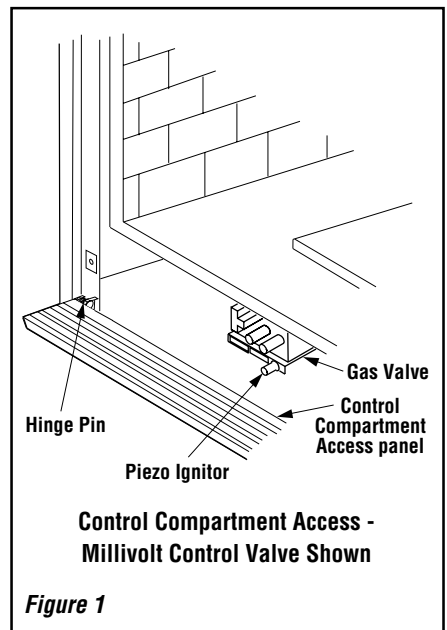
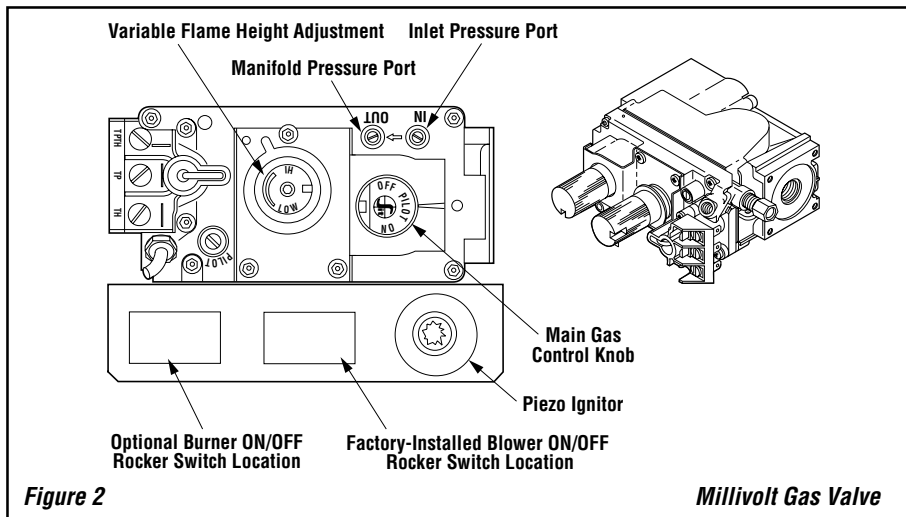

Figure 1
Figure 2
Appliance operation may be controlled by the following means: an optional unit-mounted ON/OFF control switch (Millivolt appliances only), an optional wall-mounted ON/OFF control switch or an optional remote control. The unit-mounted ON/OFF control switch may be mounted in the bracket below the gas valve (see Figure 2 on page 4).
Millivolt appliances are fitted with the gas control valve shown in Figure 2 on page 4.
Operation of millivolt and electronic gas control systems are different. Before lighting and operating your appliance determine if you have a millivolt or electronic appliance. Refer to Figure 1 for access to the gas control valve. Millivolt appliances will be fitted with the gas control valve shown in Figure 2 on page 4.
1. All Millivolt appliances are equipped with a variable gas control valve. Flame height for these models may be adjusted through a range between fixed low and high settings while the appliance is in operation. Adjust the flame height as desired after lighting the appliance by rotating the variable adjustment control knob located on the front of the valve (**refer to Figure 2**).